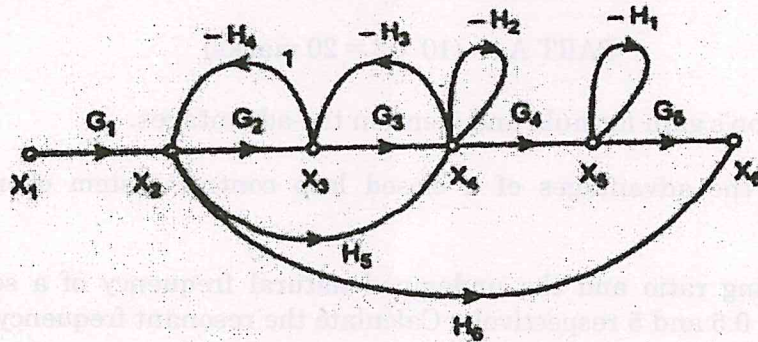

Figure 11b
- (b) Illustrate Mason's formula to derive the transfer function of a given signal flow graph in figure 11b.